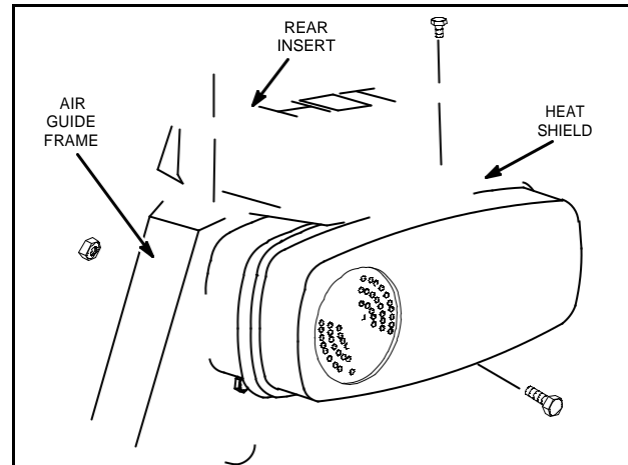

Fig. 16 – Install Ducting
1. Place heat shield (optional) and rear insert on air guide frame, Fig. 16, and start two (2) screws.